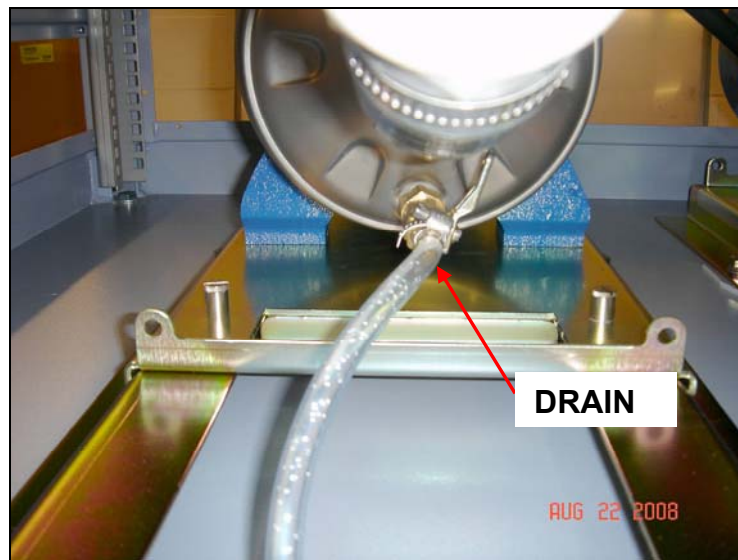

Figure 3 - Pump Drain Port
Figure 3 shows the pump drain. Each of the two pumps has a drain.
- Drain the pump and remaining fluid from the pump suction line by opening the ball valve located on the bottom of the pump housing (Figure 3). The GC plumbing circuit will be sufficiently drained when fluid stops running from pump drain hose. Close the pump drain ball valve when fluid stops running from the hose.